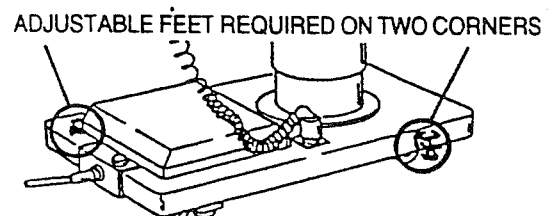

Figure 2-11. Location of Brake Feet
2. Adjustment is required on two corners of the table base for optimum stability. See figure 2-11.